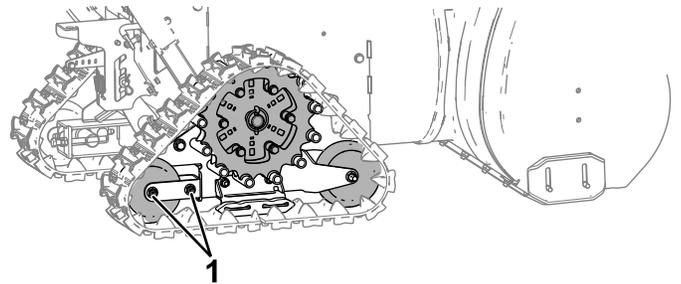

Figure 26
- A. Slightly loosen the nuts on the rear roller yoke (Figure 26).